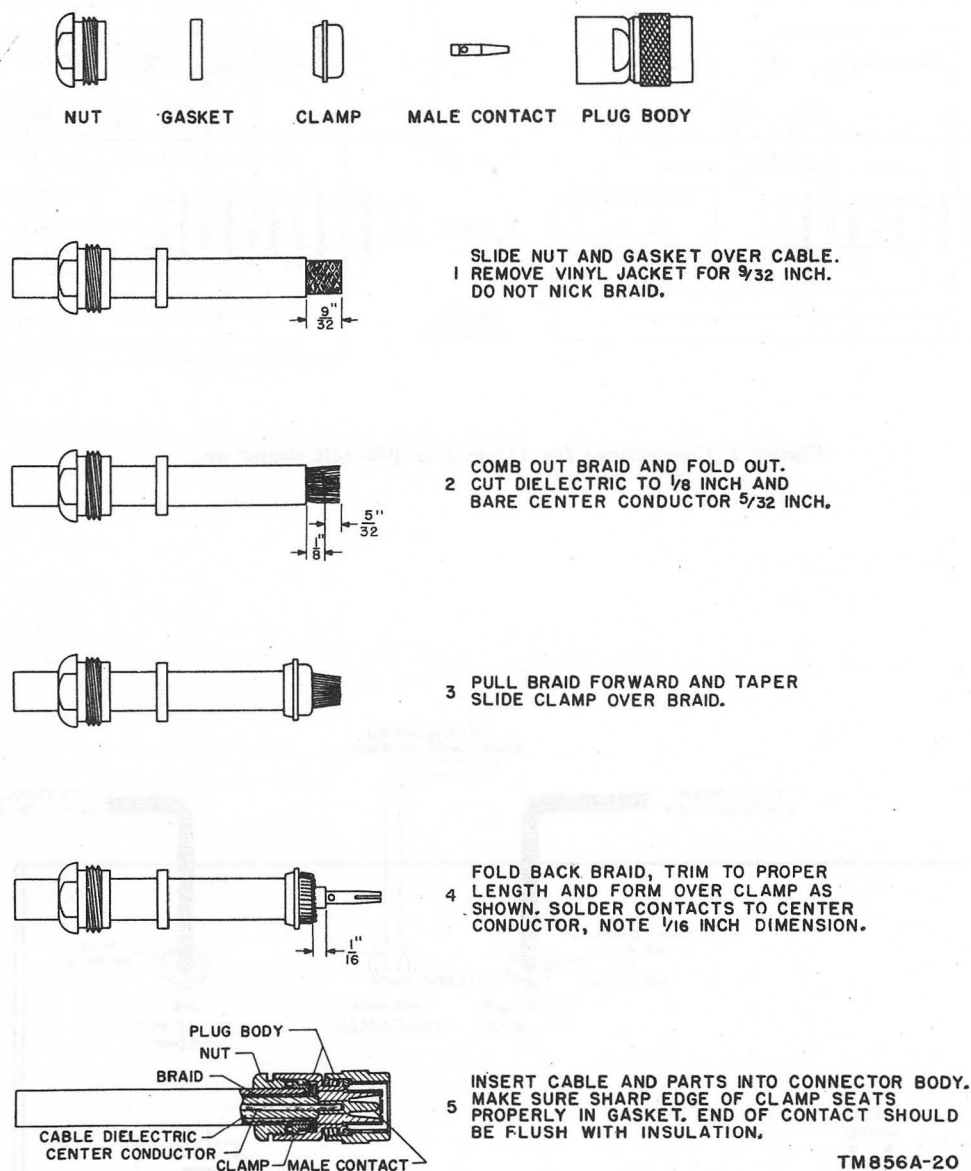

Figure 9. Assembly of Connector Plug UG-573/U to coaxial cable.
b. *Antenna.* Figure 9 shows the method of connecting coaxial connectors to the coaxial cable. The antenna is connected to either the UNBALANCED or the BALANCED ANTENNA connector (fig. 12) as follows:
- (1) *UNBALANCED ANTENNA connector, J103.* When a whip antenna is to be used for vehicular installations or a random length wire is to be used in fixed installation, connect the lead-in to the UNBALANCED ANTENNA connector by means of Connector Plug UG-573/U. The whip antenna lead-in should be as short a length as possible of Radio Frequency Cable RG-8/U or RG-11/U.
- (2) *BALANCED ANTENNA connector J104.* The BALANCED ANTENNA connector furnishes input to the receiver through a tuned antenna transformer. This connector is used for all balanced antennas, such as a balanced doublet, and should be used for unbalanced, low-impedance transmission lines. Connect the balanced coaxial Radio Frequency Cable RG-22, from